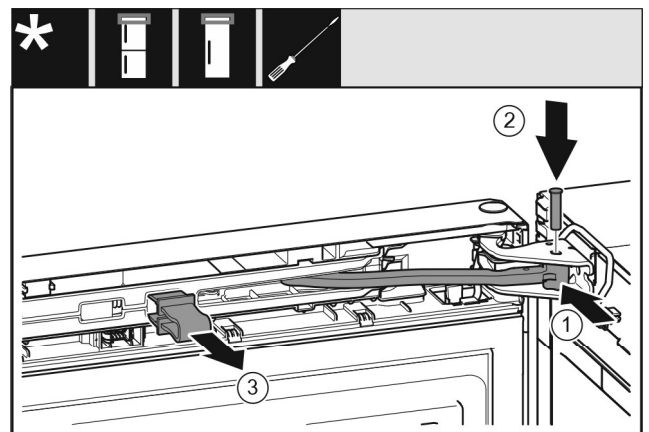

Fig. 49
- ▶ Turn the joint Fig. 49 (1) in the swap bearing block.
- ▶ Insert the pin Fig. 49 (2) into the swap bearing block and joint. In the process, make sure that the latching cam is correctly positioned in the groove.
- ▶ Remove the locking device Fig. 49 (3).